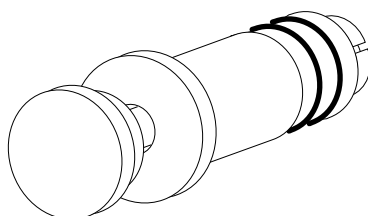

Figure 6-42. Inlet valve seal on the inlet valve seal tool
7. Remove the tool. The inlet valve seal should be on the tool. See Figure 6-42.